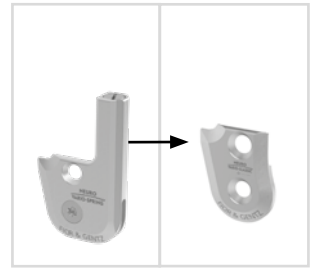

fig. 21
- 2 Mount the cover plate of the **NEURO VARIO-CLASSIC** system joint in the correct system width (fig. 21).